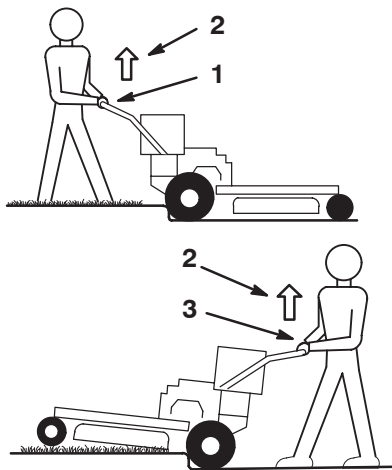

Figure 17
3. Drive machine until the castor wheels contact curb (Fig. 17).
4. Lift the front of the machine by pushing down on the handle (Fig. 17).
5. Drive machine until drive wheels contact curb (Fig. 17).
6. Lower the front of the machine (Fig. 17).
3. Drive the machine until drive wheels contact curb (Fig. 17).